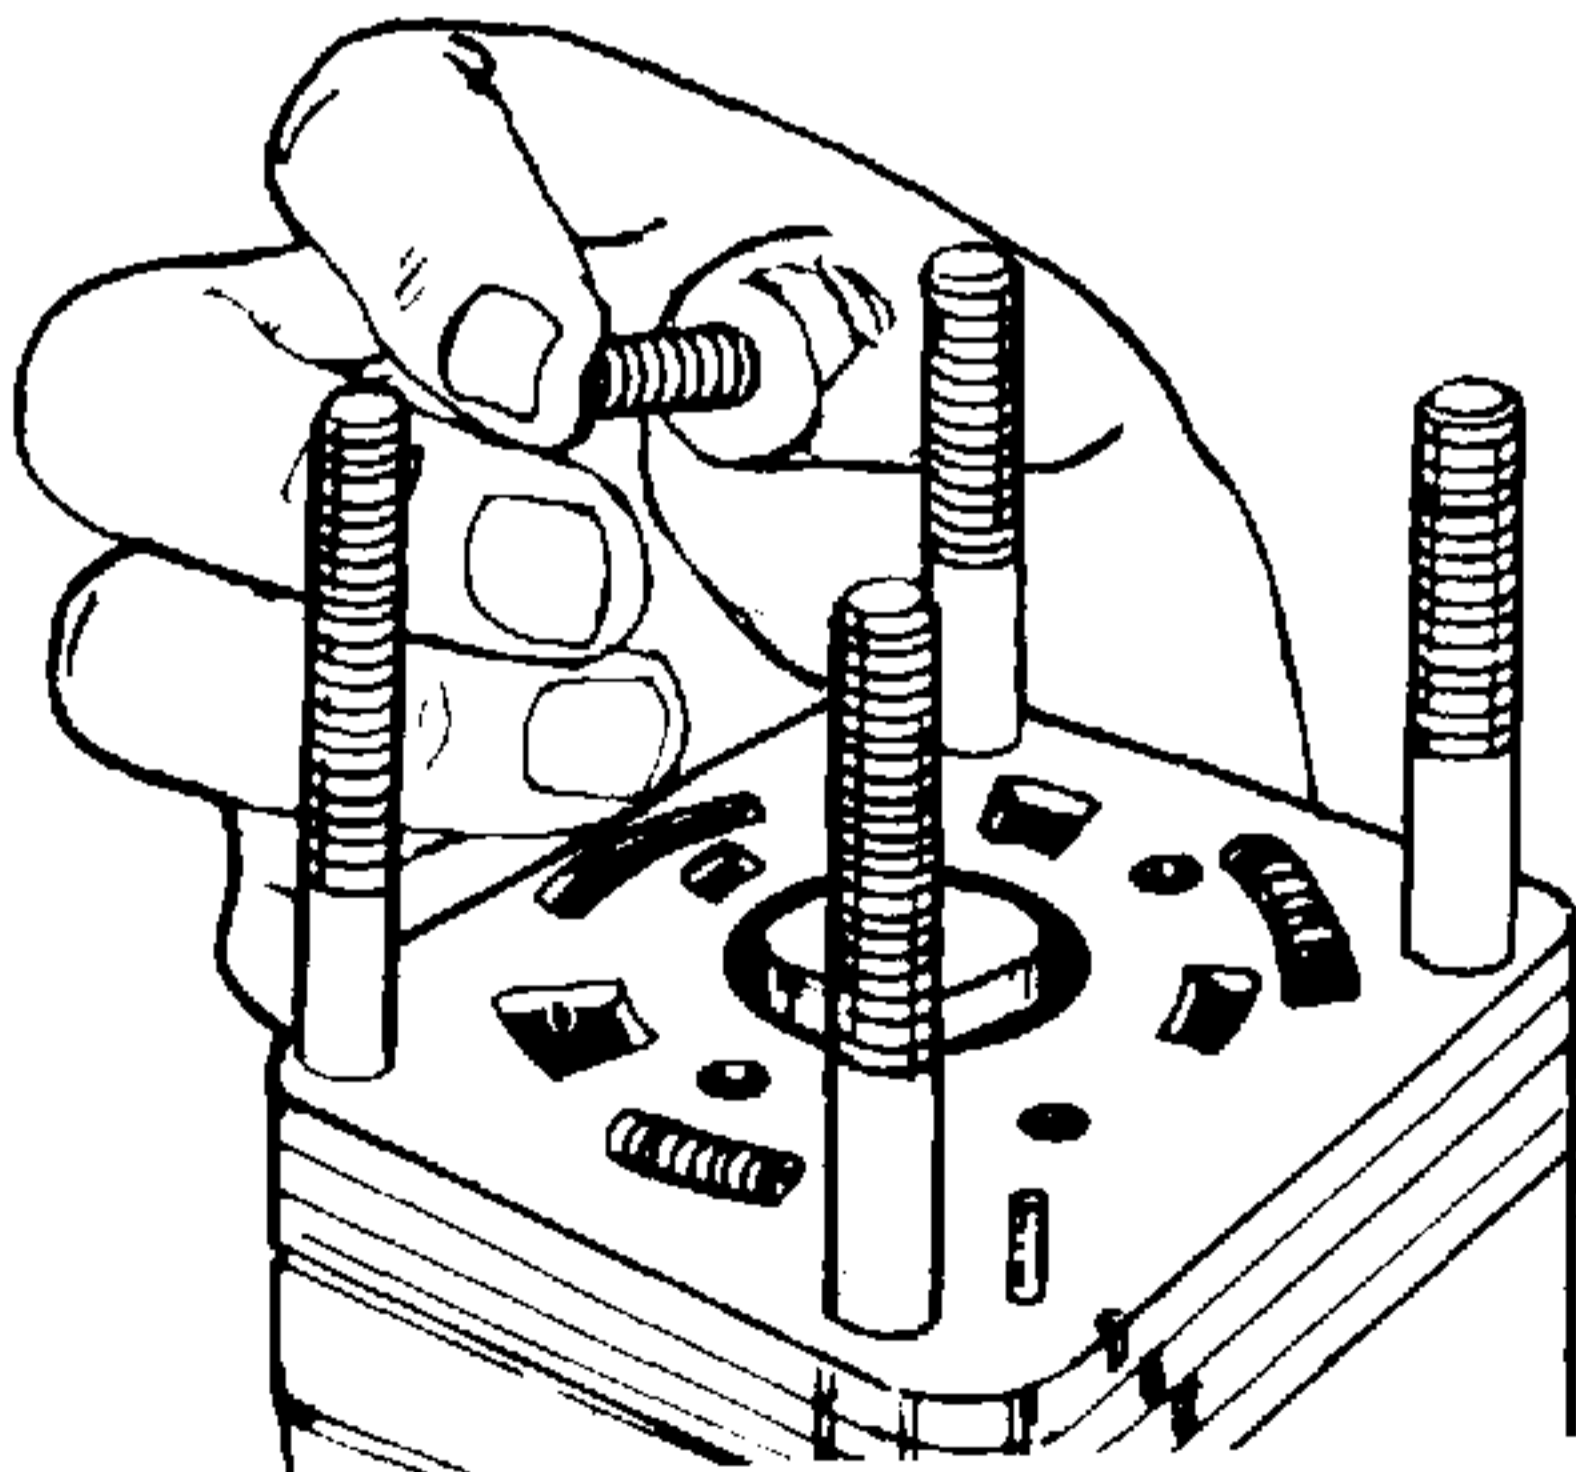

Figure 4-14. Removing Springs From Isolation Manifold.
13. Remove three springs (8) from the isolation manifold (13) pockets. See Figure 4-14.